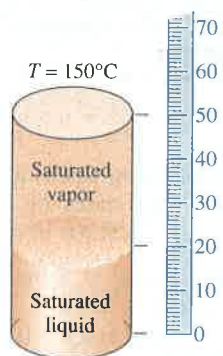

Fig. P3.20
- 3.20 As shown in Fig. P3.20, a closed, rigid cylinder contains different volumes of saturated liquid water and saturated water vapor at a temperature of 150°C . Determine the quality of the mixture, expressed as a percent.